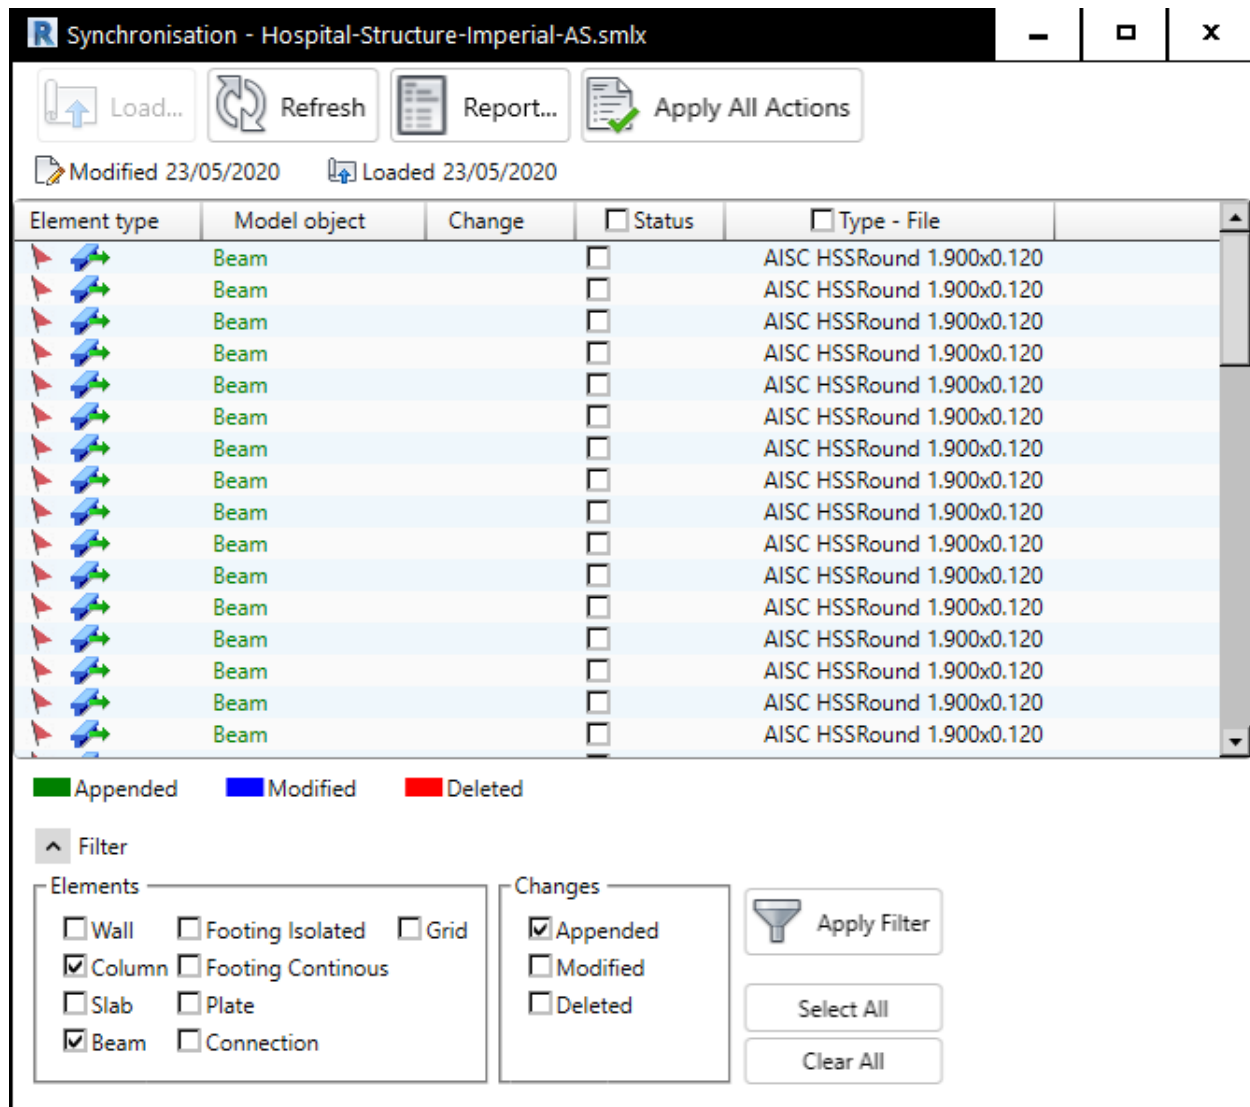

FIGURE 28: THE SYNCHRONISATION DIALOG BOX SHOWING THE APPENDED ITEMS
3. Expand the dialog box by clicking on the **Filter** button on the lower left corner. Clear the filter of the changes you do not want to see. For example, Figure 28 only shows the appended columns and beams.